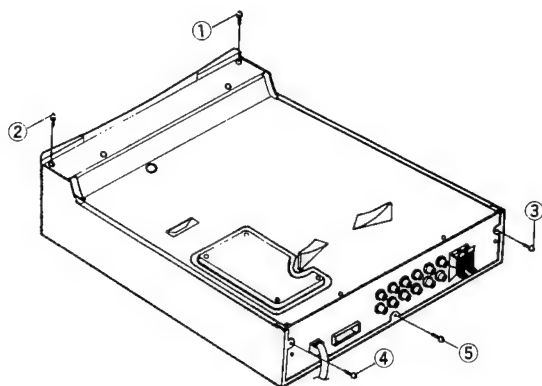

Fig. 1
1. Remove screws ① to ⑤ in Fig. 1